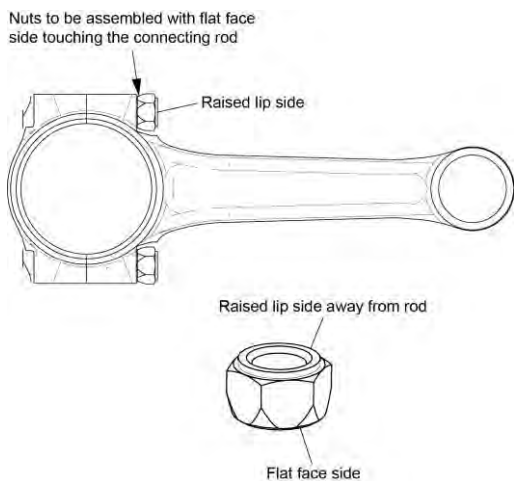
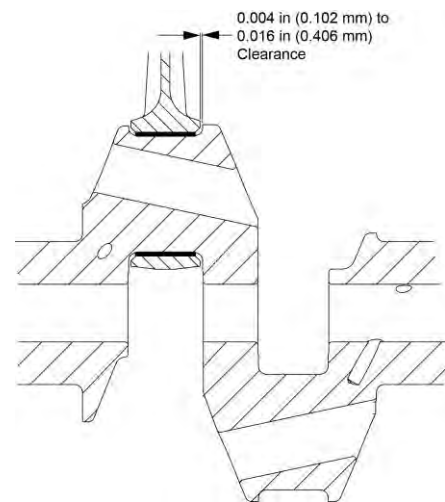

Figure 48
Figure 49
- (9) Install a new nut on each new connecting rod bolt where the flat face of the nut touches the connecting rod as shown in Figure 48.
- (10) Torque the connecting rod bolts per the torque values in the latest revision of Service Instruction No. SI-1458. (Stretch bolts require an initial torque and are then torqued to the correct stretched length.)
- (11) Measure the side clearance between the connecting rod and crankshaft with a feeler gage where shown in Figure 49. The clearance is to be 0.004 to 0.016 in. (0.102 to 0.406 mm) (service or overhauled) and 0.004 to 0.010 in. (0.102 to 0.254 mm) (on rebuilt engines). Compare the results to the measurements previously recorded.